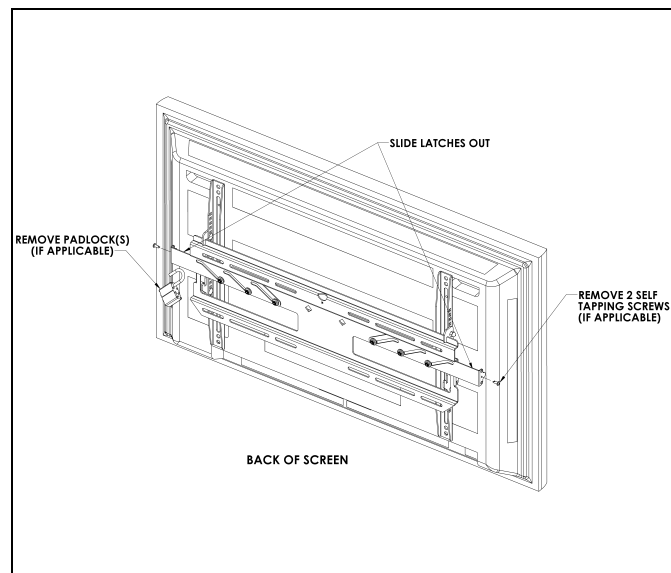

Figure 8
2. Slide the security latches out on both sides to disengage the display from the wall plate. (See Figure 8)